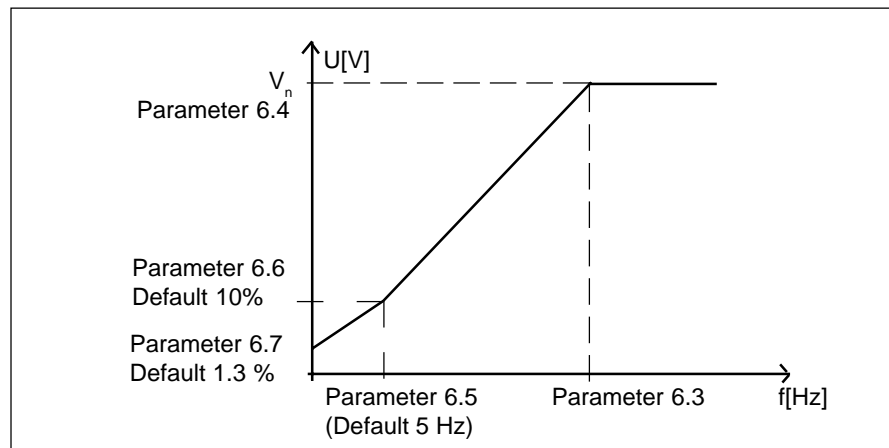

Figure 4.4-3 Programmable V/Hz curve.
- 2 A programmable V/Hz curve can be used if the standard settings do not satisfy the needs of the application. See figure 4.4-3 .